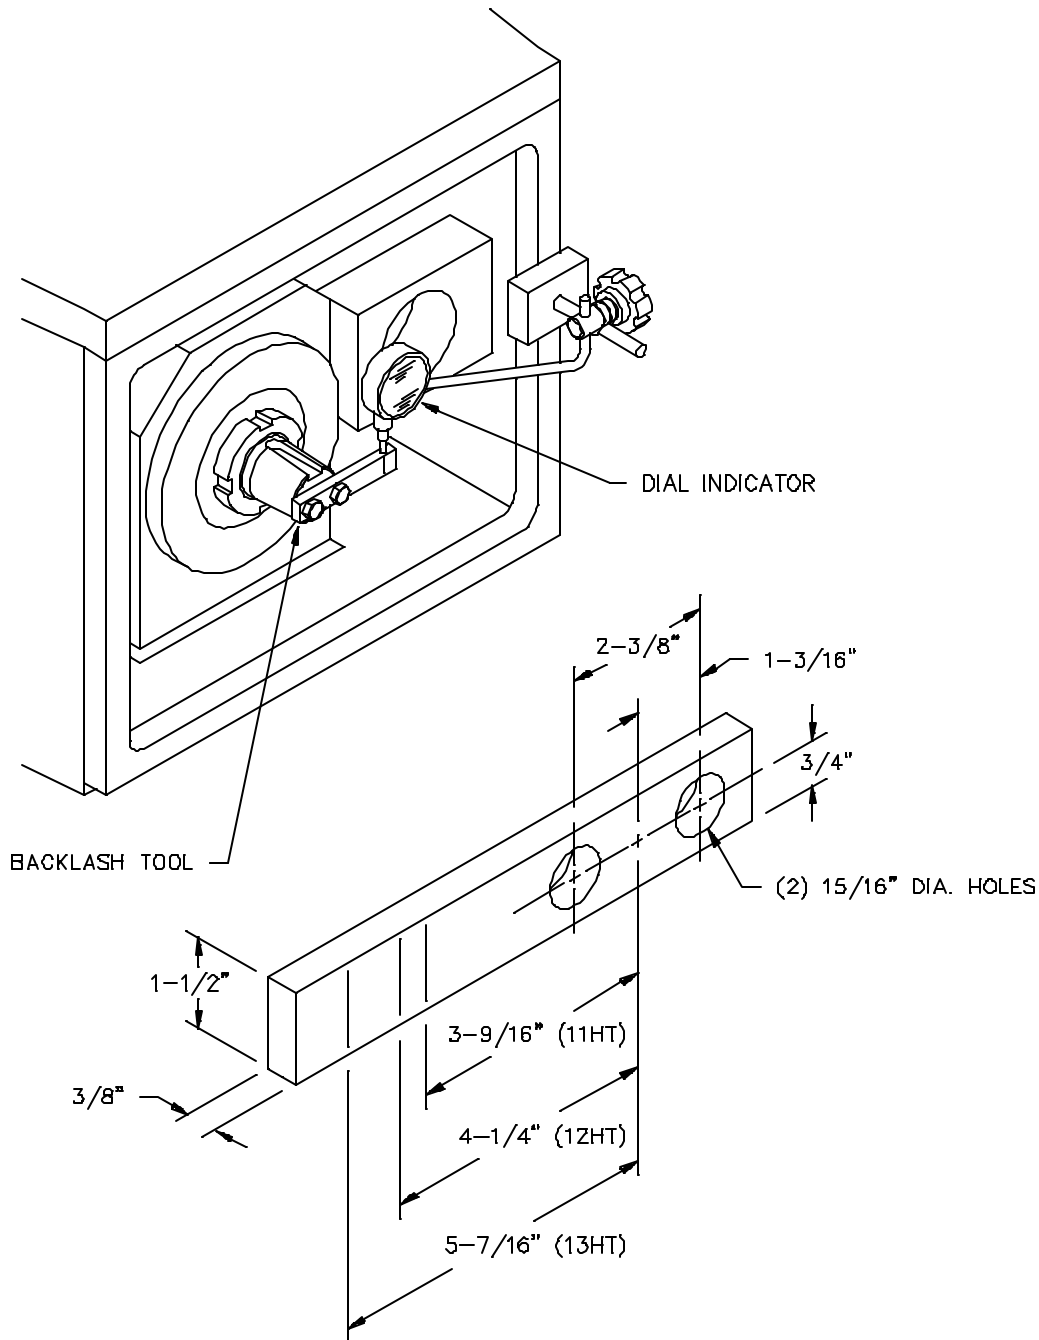

Figure 23: Backlash Setting
25. Install a backlash tool (supplied by others) (*Figure 23, page 26*) on the spiral bevel pinion shaft and measure the backlash by placing a dial indicator against the backlash tool at a right angle to the rotation. Restrain the pinion shaft from turning and rotate the spiral bevel pinion shaft back and forth to measure the free movement.